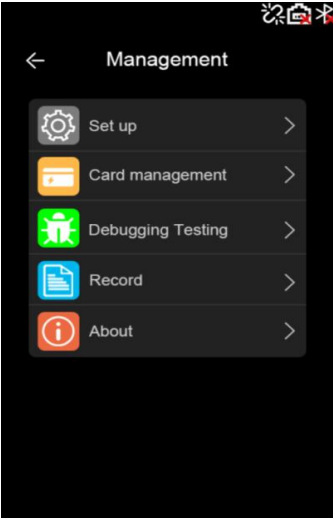

Fig. 6-6 Display of Management
■Enter the correct password to enter the management page, the picture displayed on the LCD screen is shown in Fig. 6-6.